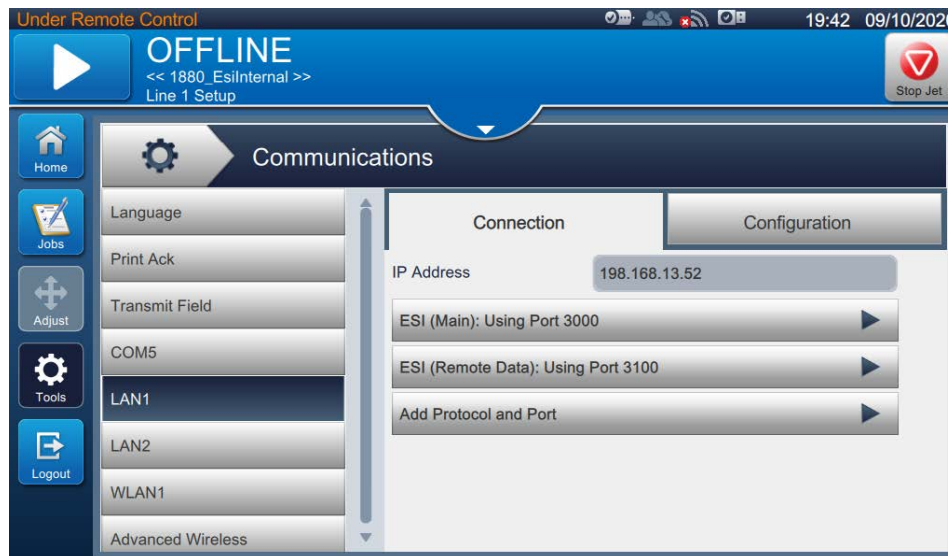

Figure 7-27: LAN1 Screen
- Ensure LAN1 is set for proper IP address and ESI (Main) is setup with port number (see Figure 7-27).
<<1880_EsiInternal>> will be seen in the left of display (see Figure 7-27).